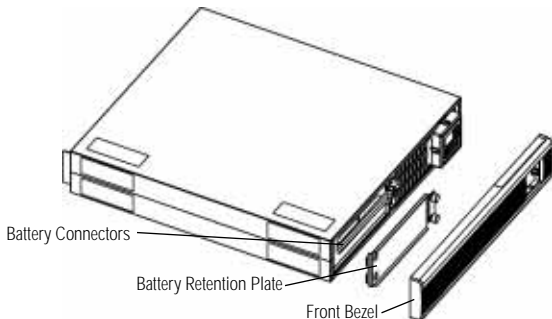

Fig. 5: Removing Front and Battery Retention Plate
2. Once the bezel is removed, unscrew the two thumb screws on the battery retention plate located on the left (bottom) side of the unit (fig. 5) and remove the plate.